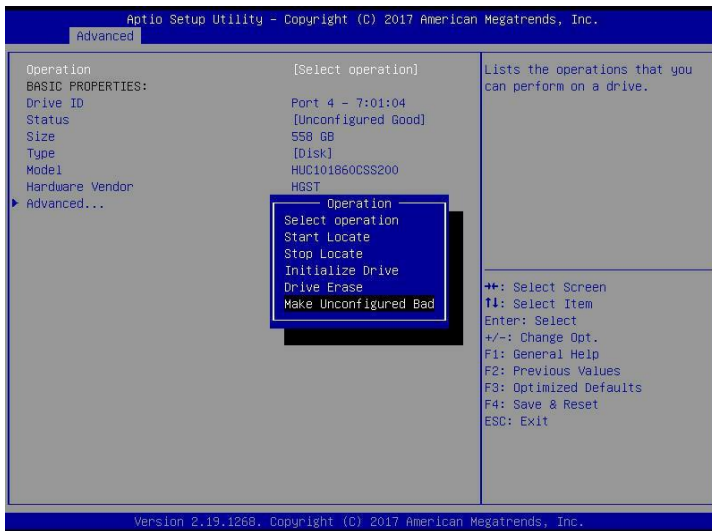

Figure 6-28
- c) Enter the interface shown in Figure 6-28, select Operation, press Enter, and then select Make Unconfigured Bad in the pop-up dialog box, and press Enter.
✧ Figure 6-28 Operation interface